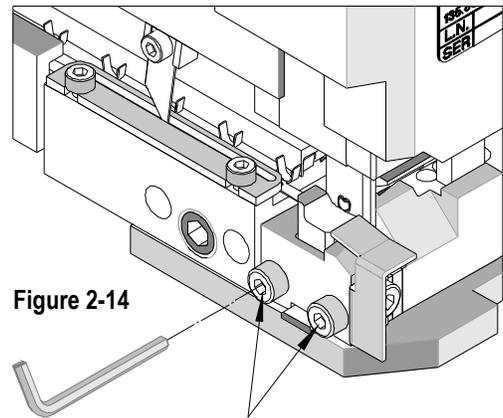

Figure 2-14
3. Remove the M4 SHCS that are holding the lower tooling in place and pull out the tooling. See Figure 2-14.